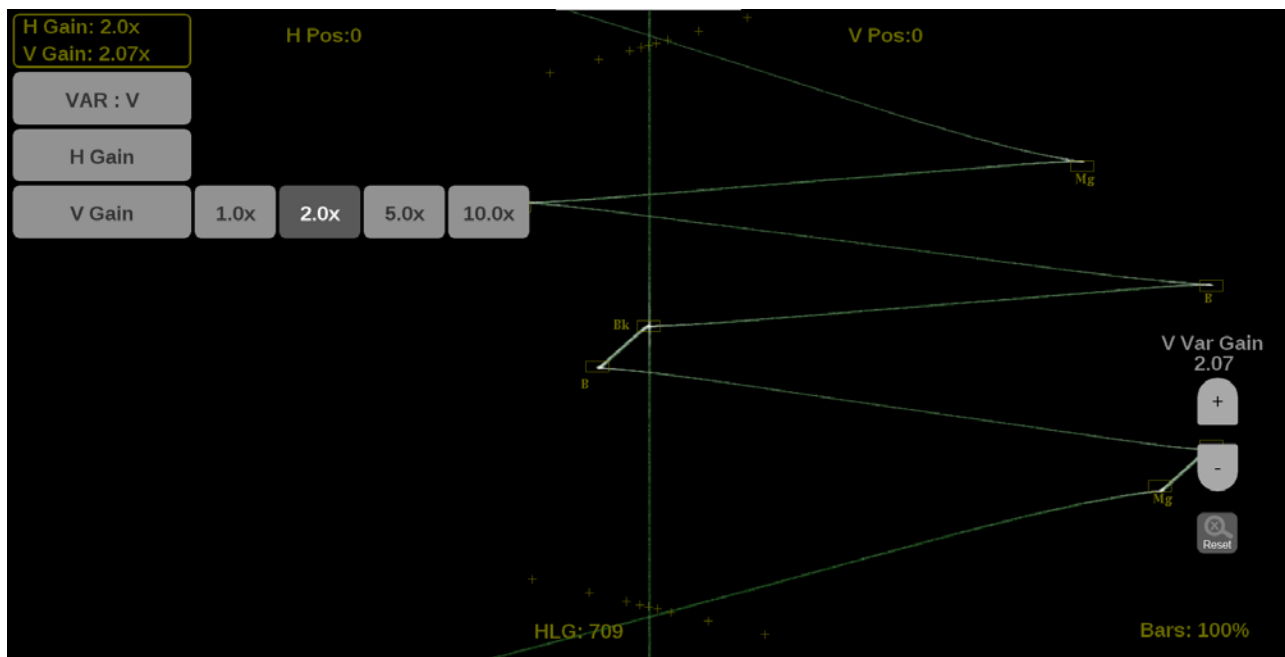

Figure 110: Lightning on-screen tools – vertical gain
3. Variable Gain can be selected by pressing VAR from **Off** to **H** or **V**. (See Figure 110.) Selecting **H** will increment the horizontal gain and selecting **V** will increment the vertical gain. Variable gain allows you flexibility in changing the gain factor between 0.5x to 20.0x.